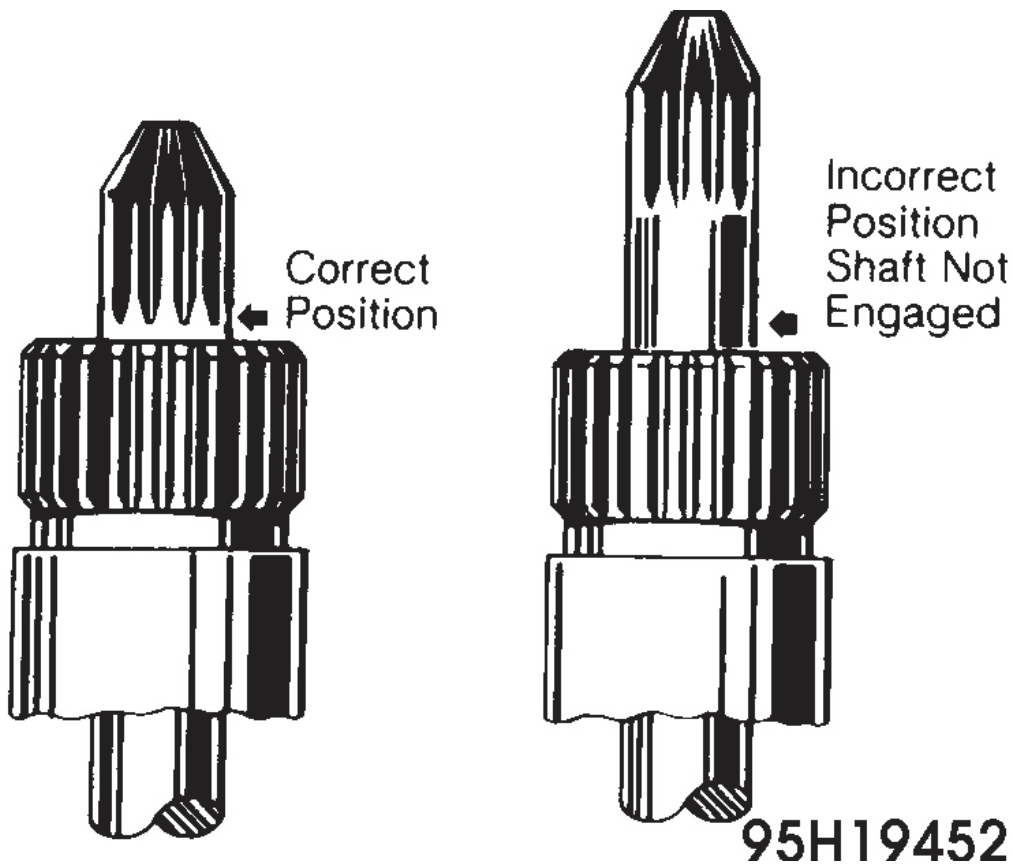

Fig. 6: Installing Pump Shaft
2. Correct pump shaft length is 13.94" (354 mm), measured from tip-to-tip. Install converter by turning slowly clockwise and counterclockwise so turbine and pump shaft splines will engage. See **Fig. 6**.